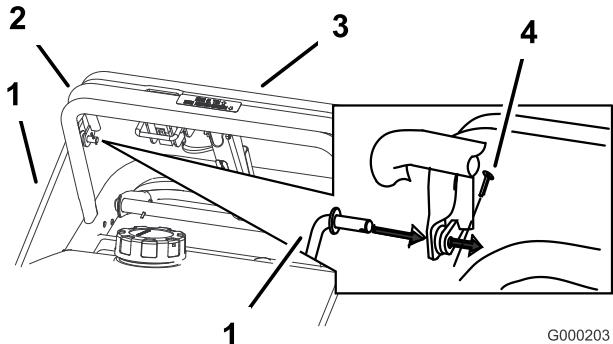

Figure 8
1. Install the control rods into the upper control bar and the blade control bail. Secure the control rods with 2 cotter pins (Figure 8).